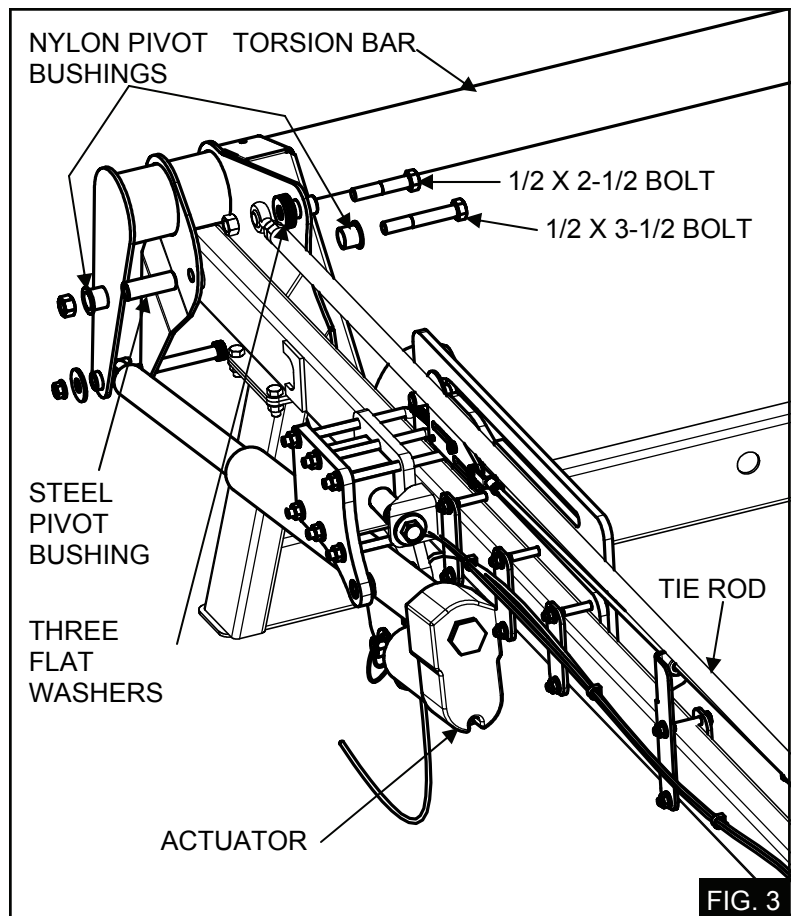

FIG. 3
6.4 Insert the steel and nylon, pivot bushings into the deck frame (See FIG. 3).
6.5 Install the torsion bar weldment using the (2) 1/2 X 3-1/2 bolts, , and lock nuts. Attach the rod end of the actuator 1/2 x 2 3/4 shoulder bolt and 3/8 serrated flange nut. (see FIG.3)